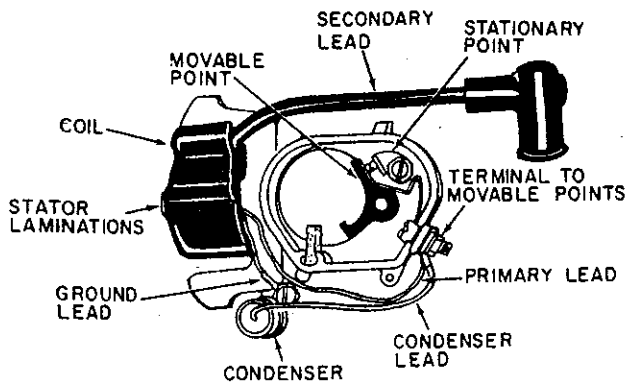

Figure 1
- B. The stator assembly consists of a stator plate, laminations, ignition coil, contact points and condenser. (See Figure 1.) Stator laminations concentrate the magnetic lines of force for the primary circuit. (See Figure 1.)
- D. The condenser acts as an electrical shock absorber to prevent arcing between the contact points as they open. Arcing would lower voltage output at the spark plug as well as burn and pit contact points, shortening point life. (Figure 1.)